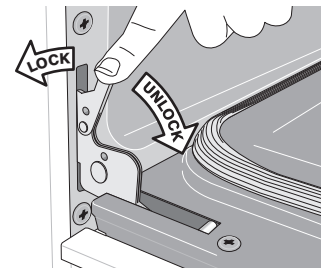

Figure 28: Door hinge locks
1. Open oven door completely, horizontal with floor (See Figure 28).
3. Fully open the oven door, horizontal with floor (See Figure 28).